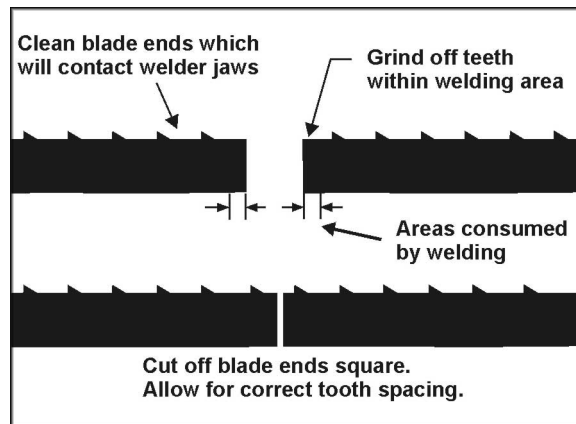

Figure 17
2. Position the blade so that the cut is made at a place that allows for uniform spacing of the teeth. See Figure 17.
In fine pitched blades, one or more of the teeth on each side of the cut may need to be removed by grinding so that the weld area of the blade is uniform and the teeth will be uniformly spaced. See Figure 17.